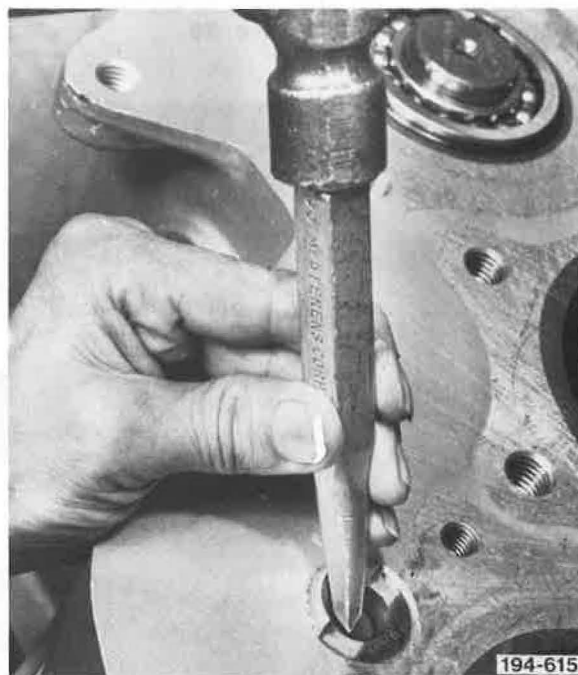

Figure 82. Removing Expansion Plug
22. Punch holes in the reverse idler shaft expansion plugs, and remove plugs. See Figure 82.